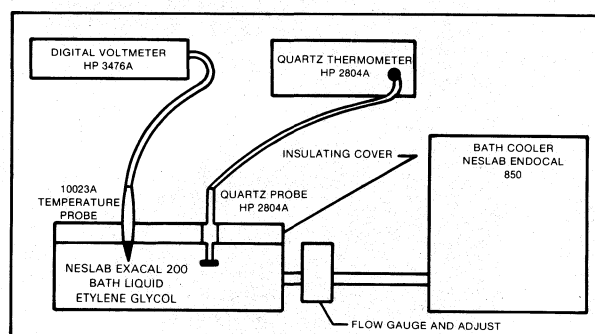

Figure 5. Performance Test Equipment Set-up
k. Connect the 10023A Temperature Probe to DVM. (Set microswitch collar for continuous operation of probe during temperature bath measurements.) See figure 5.